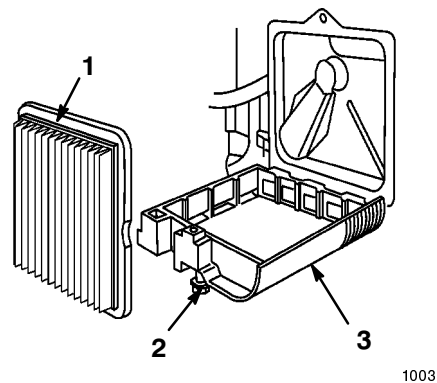

Figure 19
3. Loosen the screw that secures the air filter cover to the engine (Fig. 19).
4. Tilt the air cleaner cover down and clean it thoroughly (Fig. 19).
5. Remove and discard the paper air cleaner filter (Fig. 19).
4. Tilt the air cleaner cover down and clean the cover thoroughly (Fig. 19).
6. Remove and discard the paper air cleaner filter (Fig. 19).